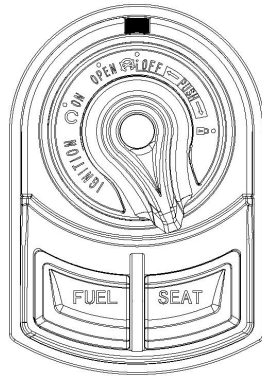

Fig. 2
- 2、 Off state (Fig. 2)
Fig 2: Open FUEL/SEAT. Seat lock: Press the lock button once, or insert the spare key from the remote control into the keyhole and turn it clockwise to this position (first gear position), then press the SEAT button to release the seat lock and open the seat. Press the FUEL button to release the fuel filler lock and open the fuel tank.